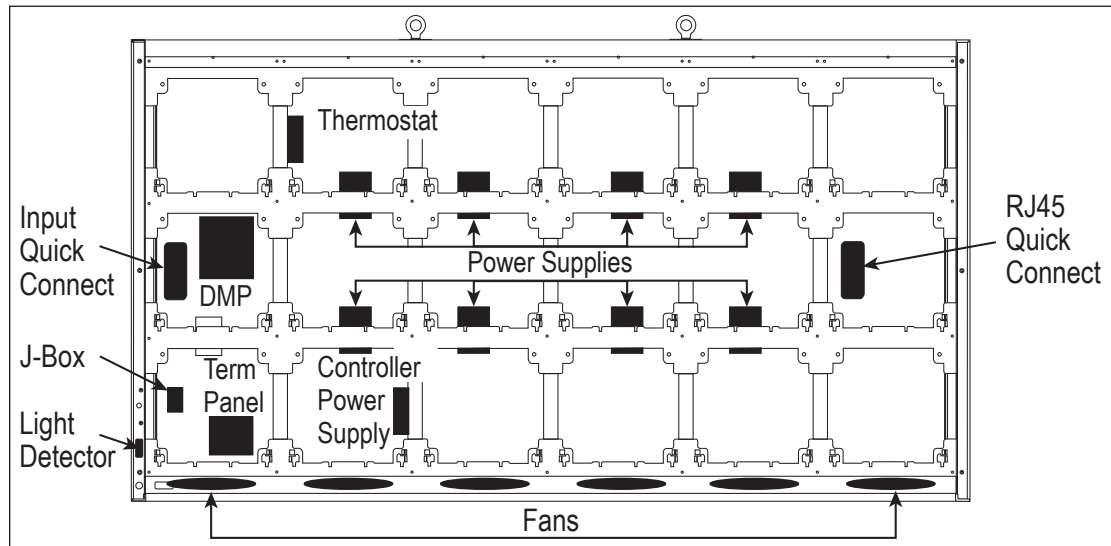
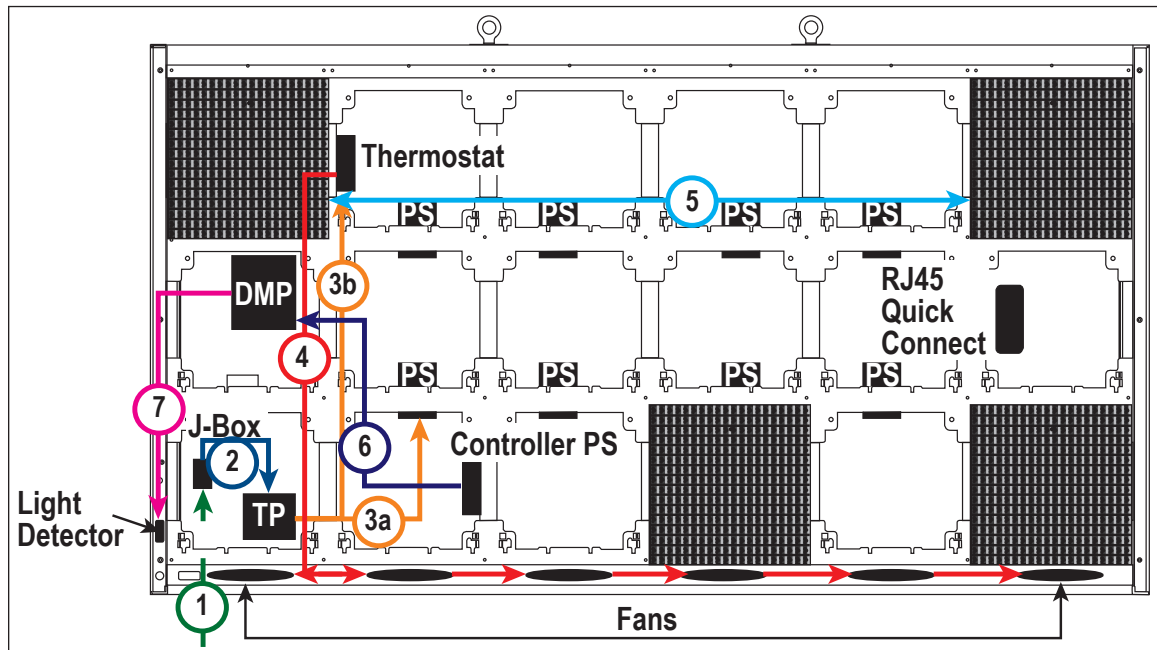

Figure 14: Component Locations
Figure 18: Power Routing
This section explains the steps necessary to maintain GT6x Small Matrix displays, which are front accessible only. Remove modules on the front of the display to gain access to internal components. **Figure 14** and **Figure 18** show internal component locations.
2. Remove the bottom two modules from the second column on the left side of the display with a $\frac{1}{8}$ " hex head wrench. A component layout is shown in **Figure 14**.
Figure 18 shows an example of how power is routed through the display.